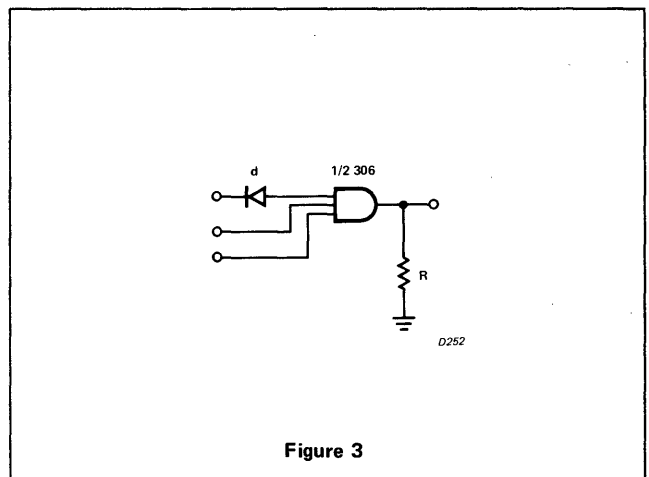

Figure 3
For applications where input "1" levels are higher than UTILOGIC II "1" levels ("0" voltages about equal), several interfacing possibilities exist. A UTILOGIC II AND gate may be used as a buffer by using a series diode (d) to improve the input breakdown voltage (see Figure 3). The external resistor, (R), may be used to improve the "0" offset voltage, thereby compensating for the voltage rise across the diode (each 20 k $\Omega$  load reduces fan-out by 1). High conductance diodes are recommended to keep the input voltage as low as possible.